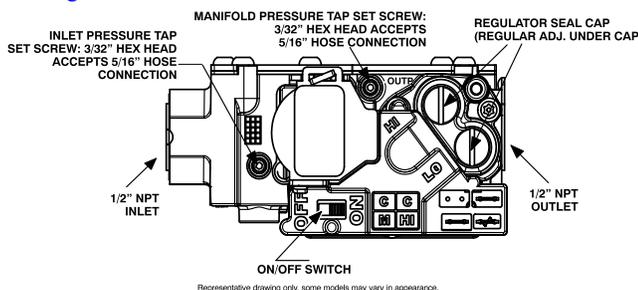

Fig. 65 – Gas Valve with Tower Pressure Ports
1. Adjust manifold pressure to obtain low fire input rate. See Fig. 65.
- h. Remove regulator adjustment cap from low heat gas valve pressure regulator and turn low-heat adjusting screw (3/16 or smaller flat-tipped screwdriver) counterclockwise (out) to decrease input rate or clockwise (in) to increase input rate. See Fig. 65.
2. Adjust manifold pressure to obtain high fire input rate. See Fig. 65.
- b. Remove regulator adjustment cap from high-heat gas valve pressure regulator and turn high heat adjusting screw (3/16-in. or smaller flat-tipped screwdriver) counterclockwise (out) to decrease input rate or clockwise (in) to increase input rate. See Fig. 65.